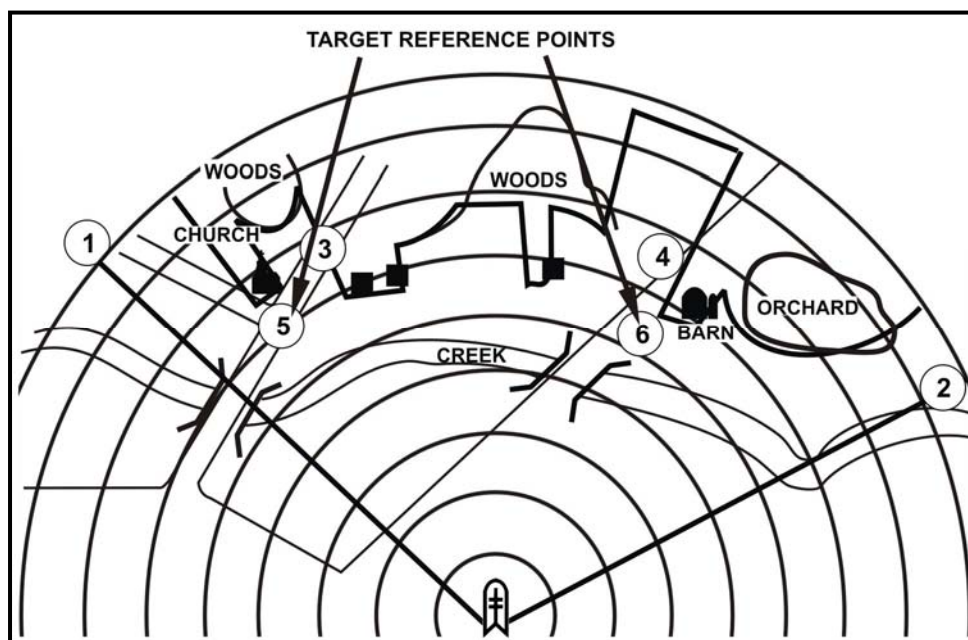

Figure D-8. Target reference points.
f. **Target Reference Points.** Prominent terrain features and or easily recognizable man-made objects (for example, road intersections, buildings, bridges, and so forth) are used as TRPs (Figure D-8). TRPs are used to locate targets and adjust direct or indirect fires. Normally, the sector has at least one TRP, but no more than three. Number each TRP and place a circle around each number starting with the next available number after AA numbers. In Figure D-8, there are two AAs and two TRPs—numbers 5 and 6 are assigned to the TRPs for this example. **Record the azimuth and distance to each TRP in the data section.**